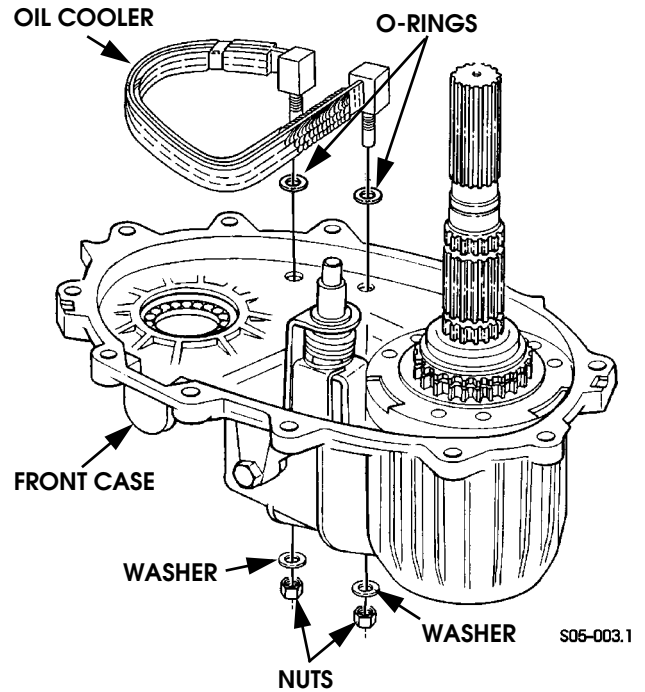

Figure 5-157: Oil Cooler Installation
23. Install new O-ring on each oil cooler tube and install cooler in front case (Figure 5-157). Secure cooler with washers and nuts. Tighten nuts to 150-230 lb-in. (17-26 N•m).